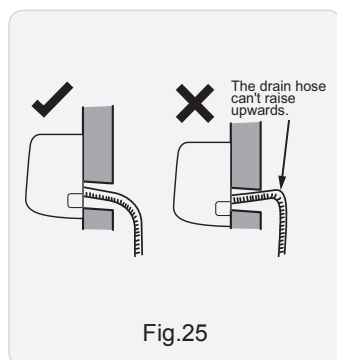

Fig.25
(1) The through-wall height of drain hose shouldnt be higher than the outlet pipe hole of indoor unit.(As show in Fig.25)